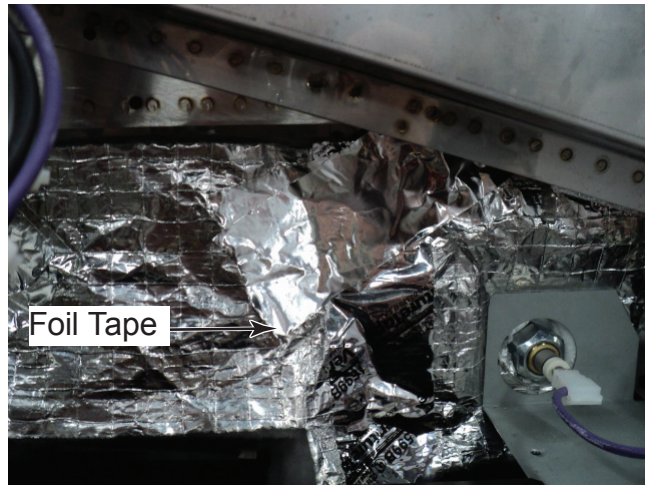

Figure 20
- Reinstall insulation around waveguide and use foil tape included in kit to seal cuts in insulation in all 4 corners of waveguide (Figure 20).